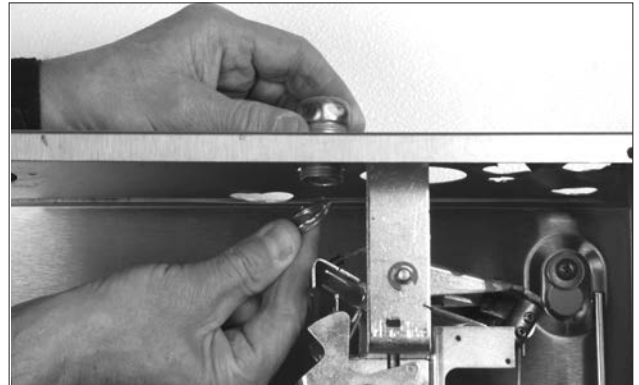

FIGURE 5-53
2. Starting at the AUTOMAN release, connect the conduit connector using the supplied nut. Use only ANSUL conduit fittings (Part No. 55813). See Figure 5-53.